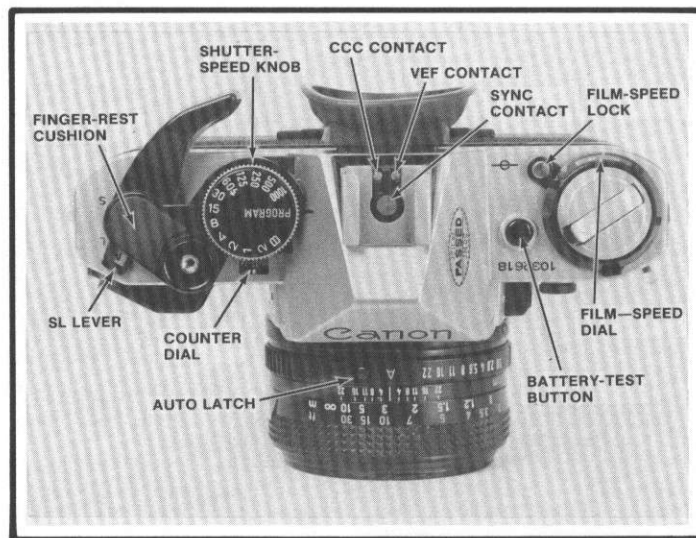

Figure 2
1. Dedicated flash. Check by connecting a 4.7K resistor between ground and the CCC hot-shoe contact, Fig. 2. When you push the release button part way, the lightning-flash and f/4 LEDs should turn on. The camera should deliver the flash speed of 1/60 regardless of the speed-knob setting (except at bulb). If not, suspect a defective IC2 or poor solder connections to the CCC contact.